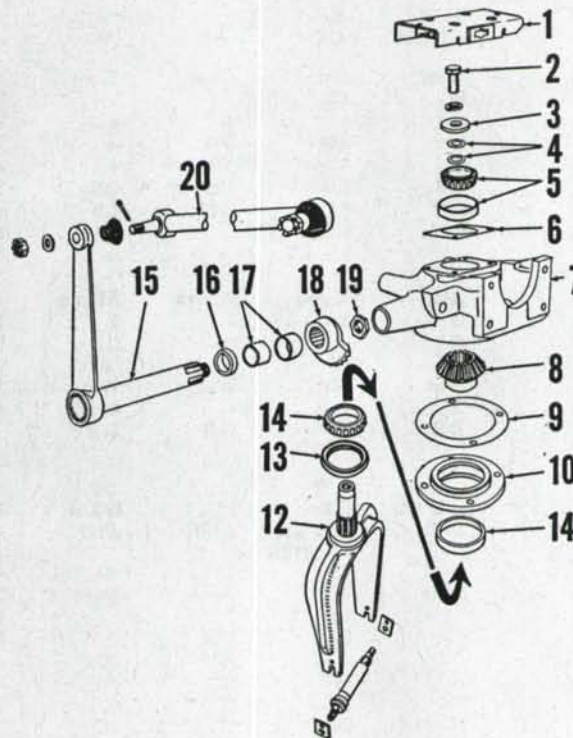
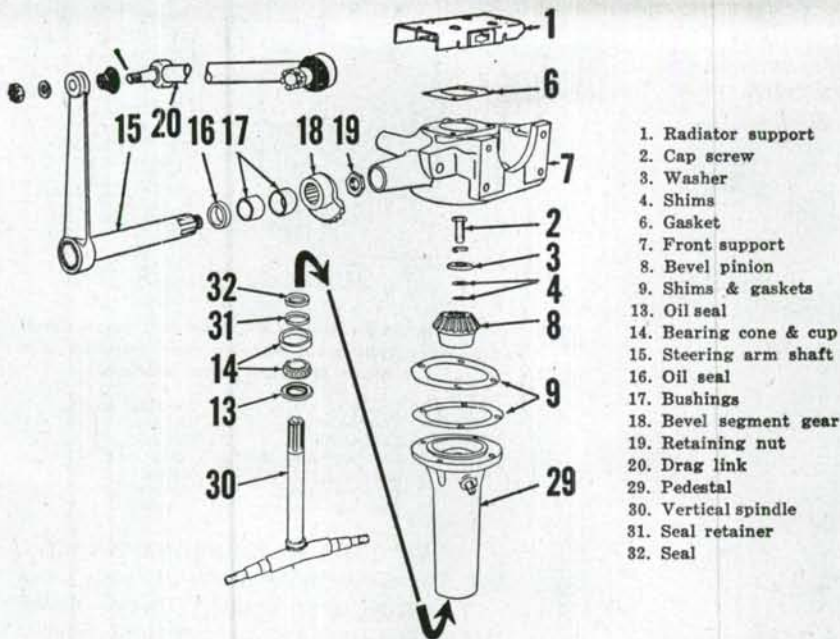
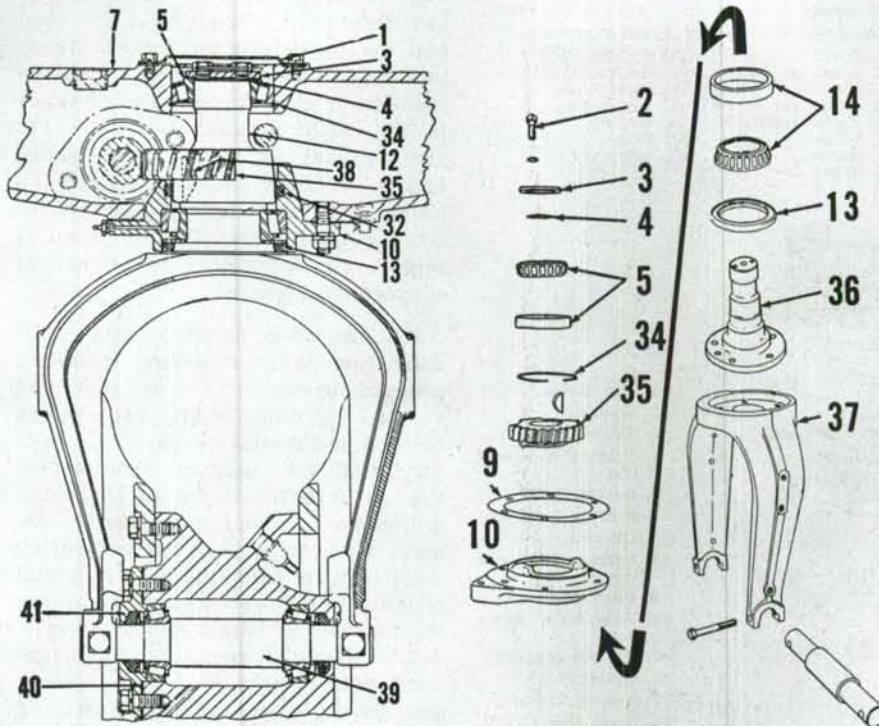
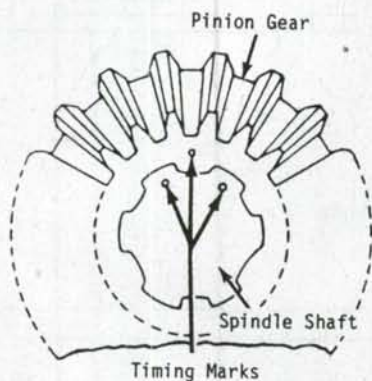

Fig. AC1—Models C and CA single wheel tricycle version front support and front steering gear assembly.
Fig. AC3—Models C and CA dual wheel tricycle version front support, pedestal, and front steering gear assembly.
Fig. AC4—Models RC and WC single wheel tricycle version front support and main steering gear assembly. WD models prior to serial WD 25129 are similar.
Fig. AC10—Correct position of pinion gear on vertical shaft is indicated by punch marks.
1. C-CA SINGLE FRONT WHEEL. To adjust vertical spindle bearings, vary the shims (4—Fig. AC1), located between top of shaft and bearing cone. Radiator must be removed to obtain access to shims.
1B. C-CA DUAL FRONT WHEELS. To adjust vertical spindle bearings, vary the shims (4—Fig. AC3) under cap screw (2) at top of shaft. To gain access to shims, remove the pedestal unit from the front support.
2. RC-WC-WD-WD45 SINGLE FRONT WHEEL. On RC-WC, and WD models prior serial WD25129, the wheel fork and vertical spindle are integral as shown in Fig. AC4. On later WD, after serial WD25128, and WD45, the wheel fork is flange bolted to the vertical spindle as shown in Fig. AC5.
Front wheel bearings are adjusted by varying the number of shims (40—Fig. AC4) located between the bearing retainer and wheel hub.
3. C-CA SINGLE FRONT WHEEL. To disassemble pedestal and front gear unit, remove hood and radiator, and with tractor supported under torque tube, remove front wheel and horizontal spindle assembly from fork. Remove cap screw (2—Fig. AC1), washer (3), and shims (4) from top of vertical spindle shaft (12). Remove cap screws retaining bearing retainer (10) to front support (7), and bump shaft down through upper bearing cone and front support. Withdraw shaft, gear and bearing retainer assembly as a unit from bottom of front support. The need and the procedure for further disassembly will be determined by an inspection of the parts and by reference to Fig. AC1. Presized bushings (17) are supplied for steering arm shaft, and if carefully installed require no sizing after installation.
3A. Assemble retainer, oil seal, lower bearing, bevel pinion gear and vertical shaft as a unit and install in front support after installing steering arm shaft and segment gear. Vary the number of shims (9) between retainer and front support to provide .002 backlash between bevel pinion and bevel segment gears. Alternate shims with gaskets to prevent oil leaks. Pinion gear and top of vertical shaft are punch marked and should be assembled as in Fig. AC10. Pinion gear and segment gear should be meshed so that steering arm is in position shown in Fig. AC11 when front wheel is in straight-ahead, trailing (caster) position and main steering gear is in mid-position. Adjust vertical shaft bearings by adding or removing shims (4—Fig. AC1) between top of shaft and bearing cone retaining washer.
3C. C-CA DUAL FRONT WHEELS. To disassemble pedestal and front steering gear, support tractor under torque tube and remove front wheels. Remove cap screws retaining pedestal (29—Fig. AC3) to front support (7) and remove pedestal. Remove cap screw (2), washer (3) and shims from top of vertical spindle shaft (30) and pull pinion gear (8) off shaft. Withdraw shaft, bearing cone and oil seal (13) from bottom of housing. The need and the procedure for further disassembly will be determined by an inspection of the parts and by reference to Fig. AC3. Presized bushings (17) are supplied for steering arm shaft, and if carefully installed require no sizing after installation. Removal of front support from tractor requires removing radiator core and detaching support from engine.
3D. Assemble steering arm shaft and segment gear before installing pedestal assembly. Pinion gear and vertical spindle shaft are punch marked and should be assembled as in Fig. AC10. Vary number of shims (4—Fig. AC3) between top of shaft and pinion gear retaining washer to remove all bearing play but permitting shaft to turn without binding. Install pedestal unit in front support varying the number of shims (9) to provide .002 backlash between pinion and segment gear. Pinion gear and segment gear should be meshed so that steering arm is in position shown in Fig. AC11 when front wheels are in straight-ahead, trailing (caster) position and main steering gear is in mid-position.
4. RC - WC - WD - WD45 WORM-SHAFT. To disassemble worm shaft, bump pin out of steering shaft universal joint and worm shaft and slide universal joint back. Remove steering shaft bearing bracket (47) and shims
(46) from rear of front support and withdraw worm shaft and gear assembly. Shims (46) can be varied in number to adjust the wormshaft bearings.
4A. RC-WC-WD-WD45 VERTICAL SPINDLE. On single wheel models, the vertical spindle is supported in two roller bearings; on one such bearing in the dual wheel models. Refer to Figs. AC4, AC5, AC7, and AC8.
On single wheel models, Figs. AC4 & AC5, first remove retainer plate (3—Figs. AC4 & AC5) and shims (4) from top of vertical shaft. Remove stud nuts which hold retainer (10) to bottom of front support. Remove vertical spindle, bearings, sector and bearing retainer as an assembly from front support.
4B. When reassembling, adjust vertical spindle bearings of dual wheel models by varying number of shims (4—Fig. AC3). On single (fork mounted) wheel types, adjust bearings by varying the number of shims (4—Figs. AC4 & AC5).
On single wheel type the spindle bearings are adjusted by varying the number of shims located between bearing retainer and wheel hub. Shims are shown at (40—Fig. AC4).